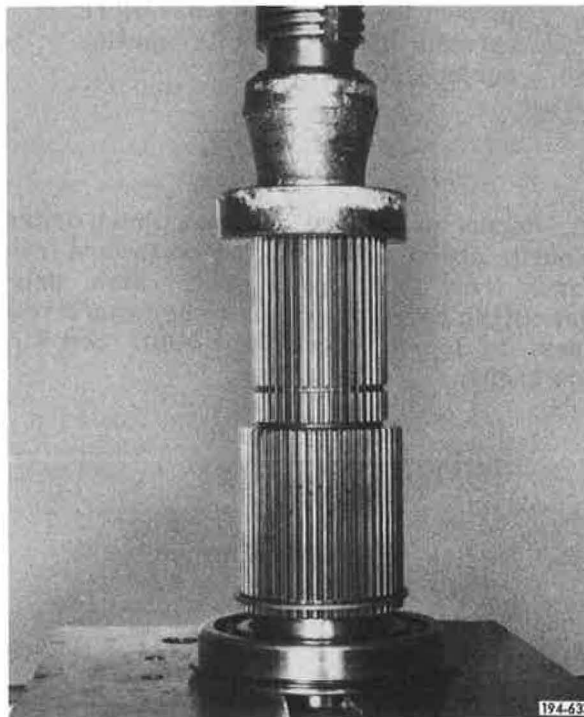

Figure 5-904. Pressing Bearing onto Mainshaft
1. Press rear mainshaft rear bearing onto shaft. See **Figure 5-904**.